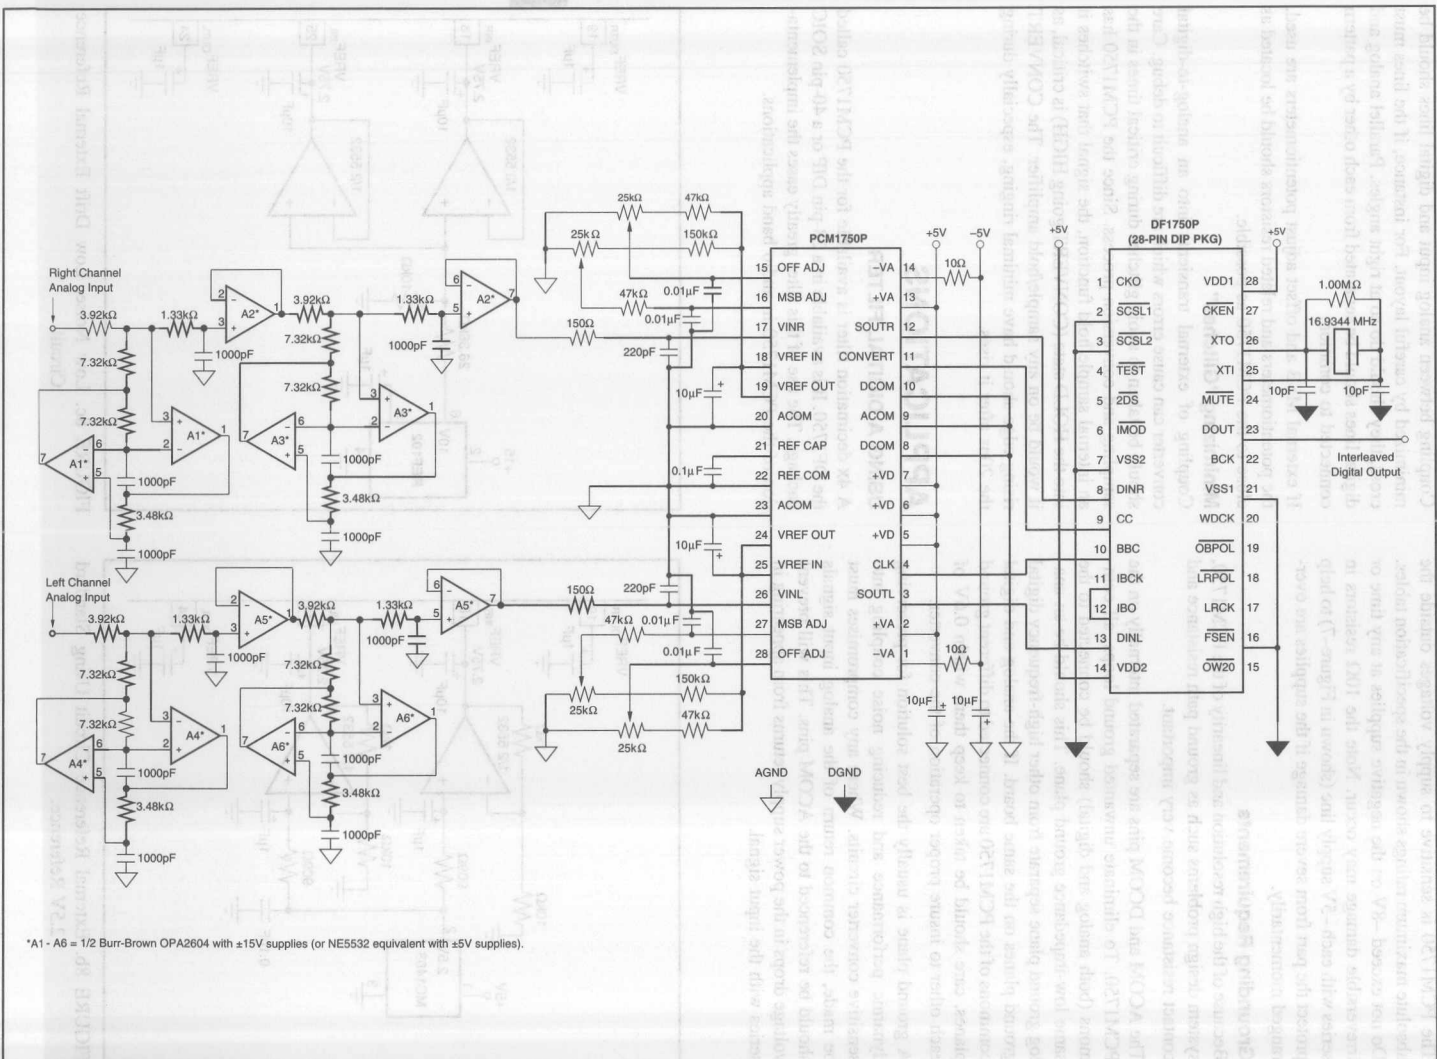

FIGURE 9. Complete Sampling A/D Circuit with Anti-aliasing and Digital Filter (44.1kHz output data rate).
To prevent unwanted input signals from being aliased into the passband of the converter, it is necessary to suppress all out of band signals above 1/2 the sampling frequency of the ADC by using a low-pass filter. The requirement for an anti-aliasing filter, however, can be reduced by using oversampling techniques. By raising the sample rate of the converter by a factor of 2 or even 4, the roll off of the anti-aliasing filter can be reduced. In Figure 9, a 6th order, linear-phase, anti-aliasing filter is implemented using low-cost dual audio op amps. This filter will suppress frequencies above 96kHz by 80dB. For many applications a 4th or 2nd order anti-aliasing filter will be adequate when using the PCM1750 in the 4x oversampling mode.
Figure 9 is a partial schematic of the demonstration fixture for the PCM1750 (orderable by model number DEM1133). It shows the implementation of (1) a 6th order, linear-phase, anti-aliasing filter (22kHz low-pass); (2) the PCM1750P A/D converter; and (3) a 4x digital decimation filter called